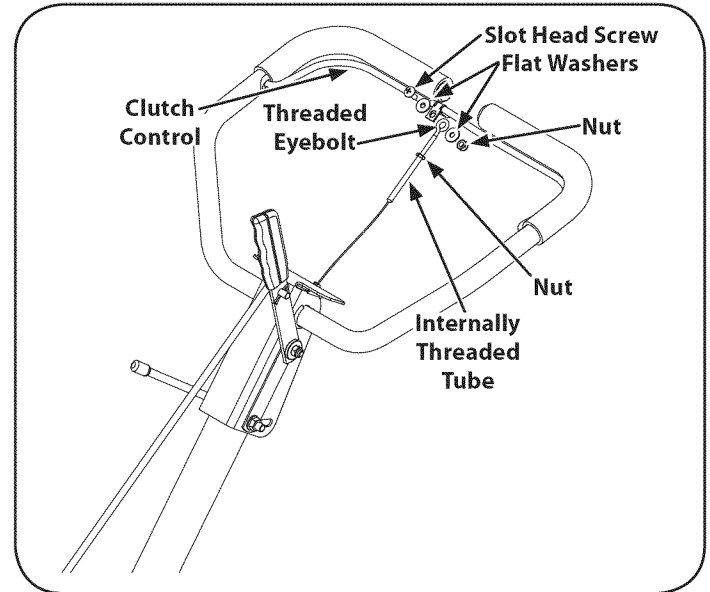

Figure 6
4. If the belt turns without the clutch control engaged, adjust it by unthreading the internally threaded tube at the end of the cable a few turns clockwise (when standing in the operator's position) and then retighten the nut against the tube. See Figure 6.
7. If the wheels do not spin with the tiller in forward, adjust by unthreading the tube at the end of the cable a few turns counter-clockwise (when standing in the operator's position) and then retighten the nut against the tube. See Figure 6.